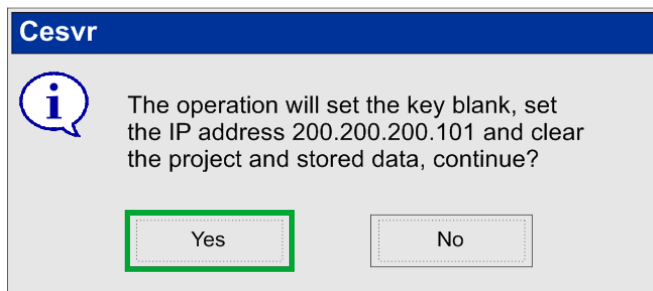

Fig. 4
5. In the pop-up window that appears (Fig. 4) press the 'Yes' button: